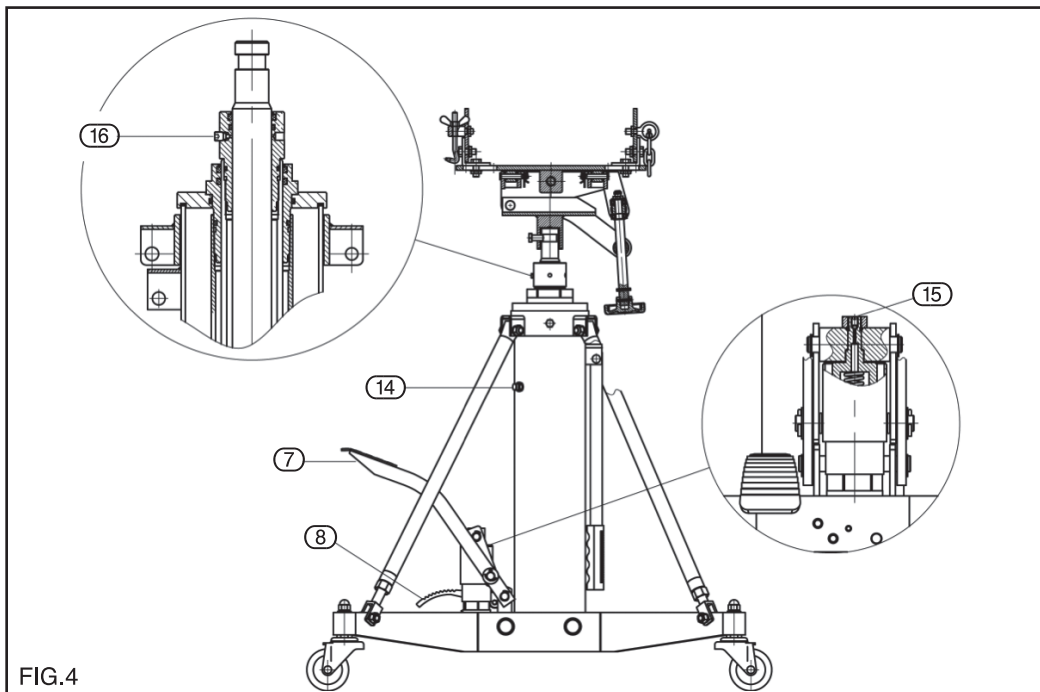

FIG.4
9.1 BLEEDING INSTRUCTIONS FIG. 4